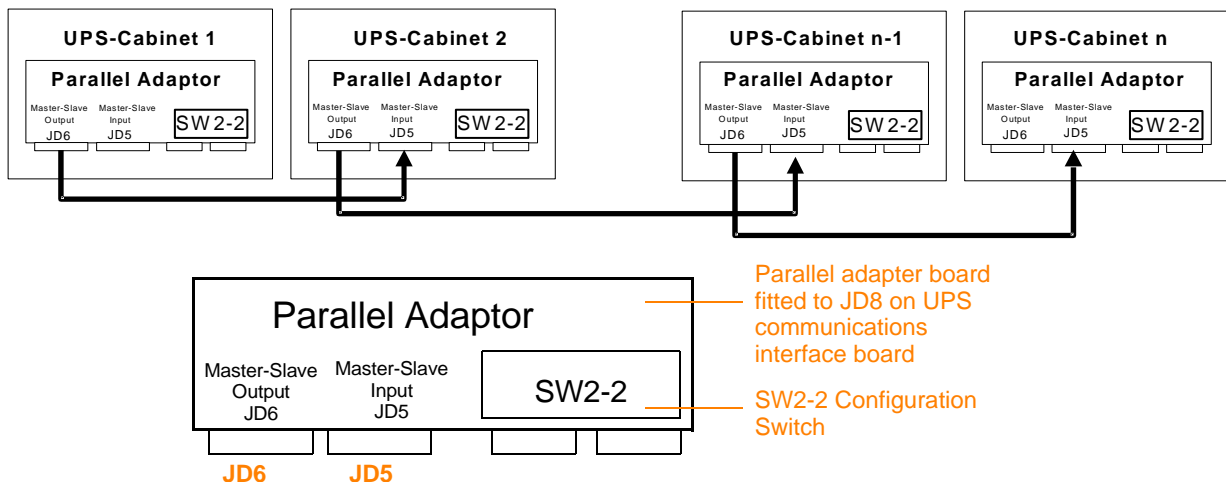

Figure 3.18 Connection of the Bus-lines when paralleling UPS-Cabinet Parallel Adaptors
Note: The parallel adapter contains two port connectors, JD5 and JD6 and a configuration DIP Switch (SW2) (see Figure 3.18).
8. Continue in the same manner for the remaining UPS Cabinets, as illustrated in Figure 3.18.